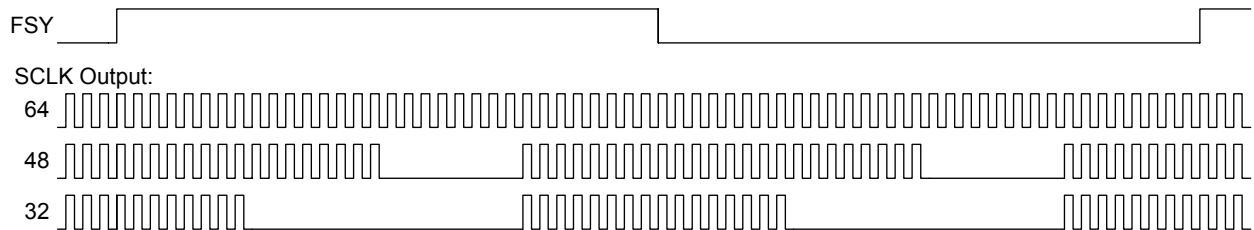

Figure 3-16: Source-Port SCLK Output Timing (*bSDC1.EDG = 0*)
- NBR[1:0]** Number of bits in audio frame. When **SCK** is configured as an output, the **SCK** output is a gated version of the 64-bit period clock, as illustrated in Figure 3-16. When **SCK** is an input, the chip supports either 64 or 32 bits per frame. When the chip is a timing-master and the chip's clock source is the **SCK** input, **SCK** must be a continuous clock for the PLL to lock properly. If the chip is a timing-slave or if **SCK** is not the chip's master clock, then the **SCK** input can be a gated clock.